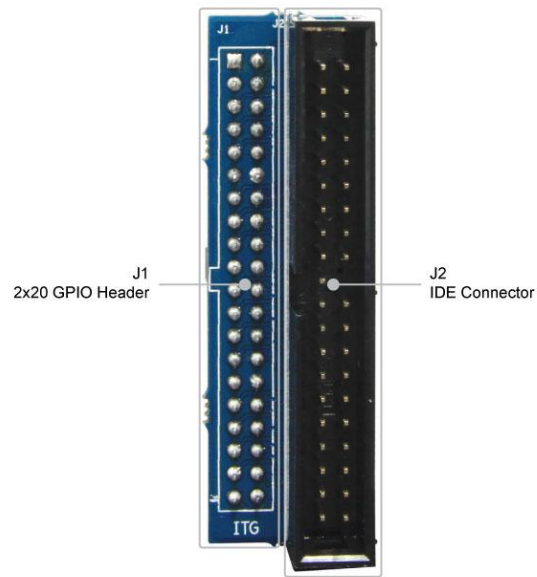
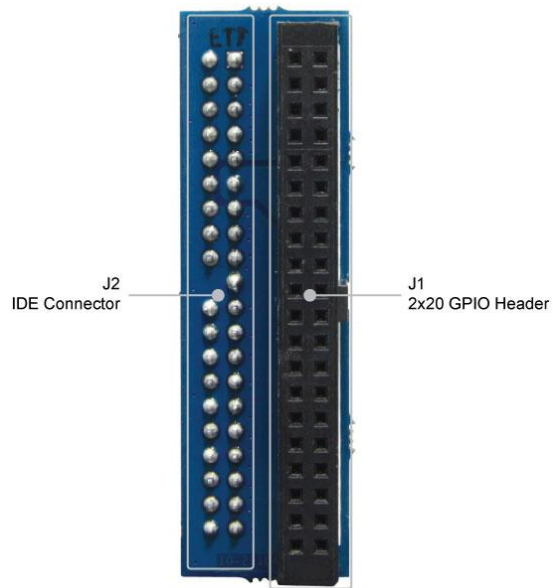

Figure 2-6 ITG Adapter (Top View)
Figure 2-7 ITG Adapter (Bottom View)
**Figure 2-6** and **Figure 2-7** show the top view and bottom view of ITG adapter, respectively.